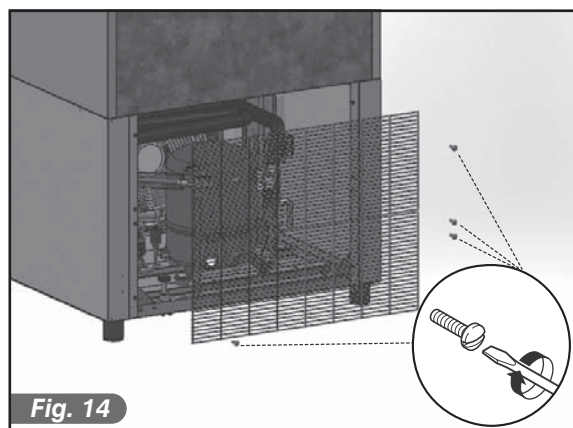

Fig. 14
- Remove the rear protection grid (Fig.14) by undoing the screws with a flat-head screwdriver
- Remove the rear protection grid by undoing the screws with a flat-head screwdriver (Fig. 14)